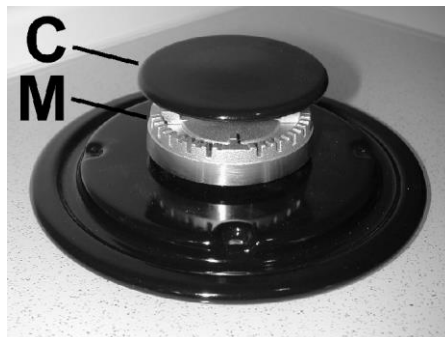

FIG. 8
Periodically wash the hot plate, the enamelled steel pan support, the enamelled burner caps "C" and the burner heads "M" (see fig. 8) with lukewarm soapy water.
- Check that burner head slots "M" (fig. 8) have not become clogged by foreign bodies.***
- Check that enamelled burner cap "C" (fig. 8) have correctly positioned on the burner head. It must be steady.***